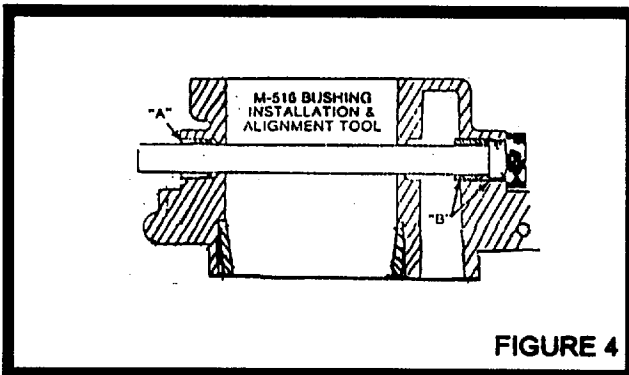

FIGURE 4
- 39) Install throttle shaft bushings (77) using tool M-516 as shown in Figure 4.
- 40) Lightly coat the bushing with Loctite RC 680 per Loctite's recommended instructions. Press bushing "A" in place first, flush with casting. Repeat as shown with bushing "B". Cure with tool M-516 in location as shown from two to four hours. Heat not to exceed 110°F may be used to speed curing. **NOTE:** Repeated rebushing of older models with the old style steel bushings may have enlarged the bore with resultant loss of press fit. Make sure in this case that the loose bushings are in location as shown in Figure 4.